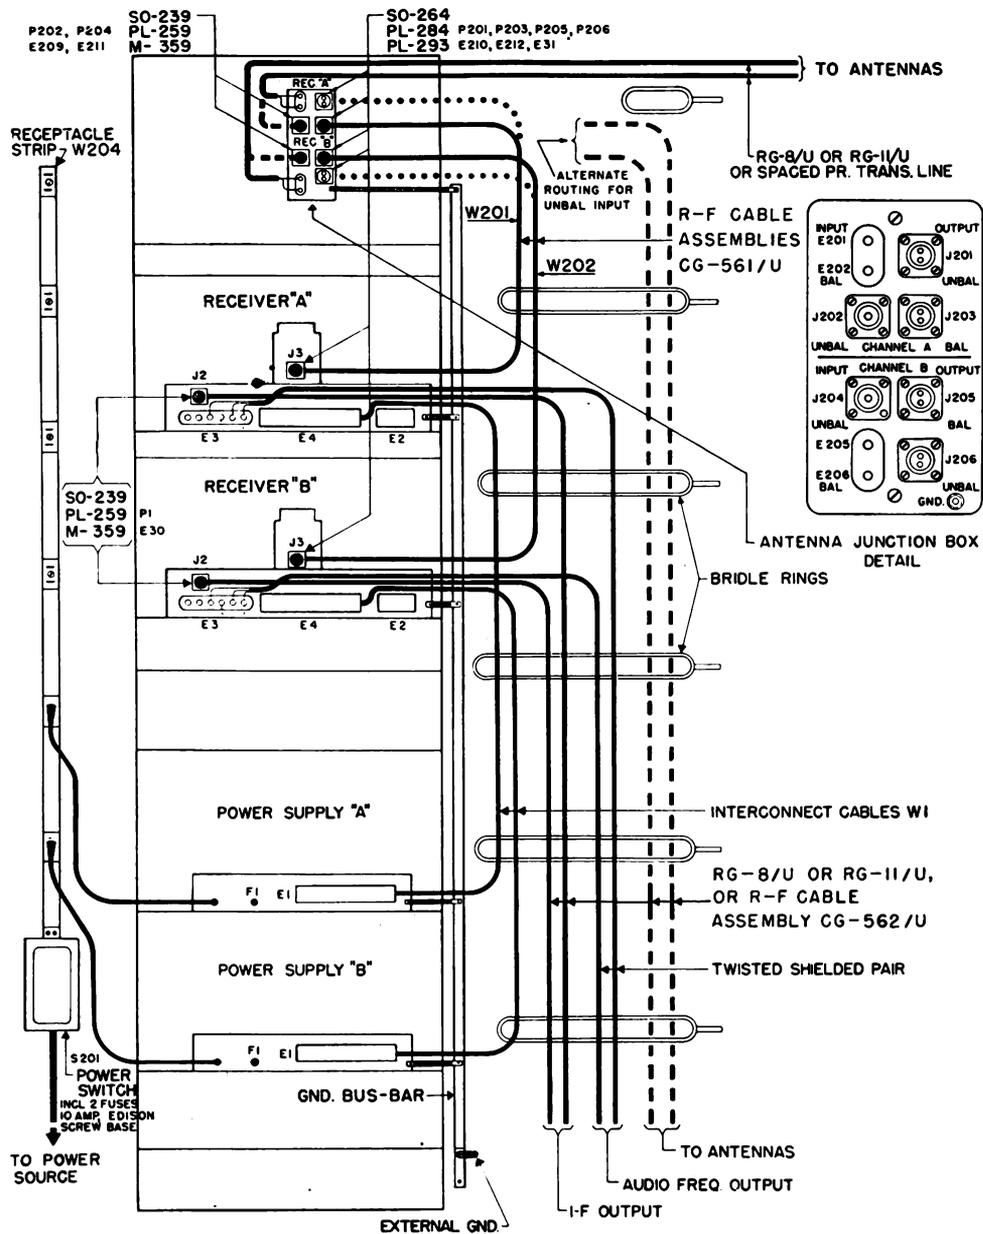

Figure 13. Cording diagram.
a. Mount the cables for connection of input and output signals and for interconnection between the units in the bridle rings within the cabinet. The cording diagram (fig. 13) shows the manner in which the cables are mounted and the manner of connecting the cables which feed signals from the rack antenna junction box to the receivers. Figure 14 shows the connection of the cables between each receiver and its power supply. The interconnecting terminal boards of the receivers and power supplies have metal covers which must be removed to connect the cables. Replace covers after connecting cables. When CV-31 ()/TRA-7 is used, connect the i-f output jacks from each radio receiver to the appropriate converter input connectors by means of R-f Cable Assemblies CG-562/U. Plug the power supply power cable connectors into the most convenient voltage receptacle on the receptacle strip.
on the junction box with the cam locks which are mounted on the cover. Connect the appropriate (balanced or unbalanced) antenna junction box connectors to the receivers by means of the cables (R-f Cable Assemblies CG-561/U) after they are mounted inside the cabinet, as shown in the cording diagram (fig. 13).